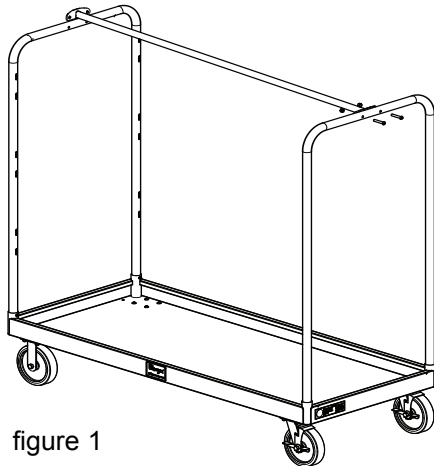

figure 1
- Two people are required to assemble the hanger bar (#3) at the top of end loops (#2) of the OnBoard Cargo Cart. One person should support one end of the hanger bar (#3) on the end loop (#2) and another person should attach the other end using the button head cap screw, long (#11) and nut (#9) (figure 1)